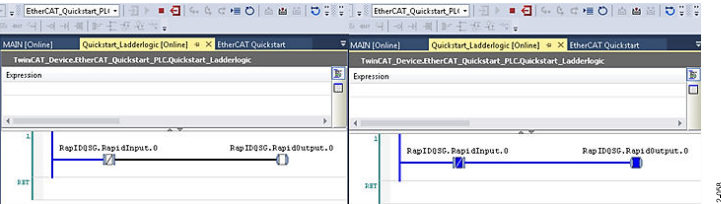

Figure 62. TwinCAT Ladderlogic Input and Output Toggling Between State 0 (Left) and State 1 (Right)
19. The logic elements on the ladder logic screen are now flashing because the input and output data is sampled as shown in Figure 62. In the Network Interface Example Application Suite window, the LSB of the digital output data toggles quickly between 0 and 1 as shown in Figure 63. The toggling of the digital output data confirms that this data is flowing. The PLC example application creation is now complete.